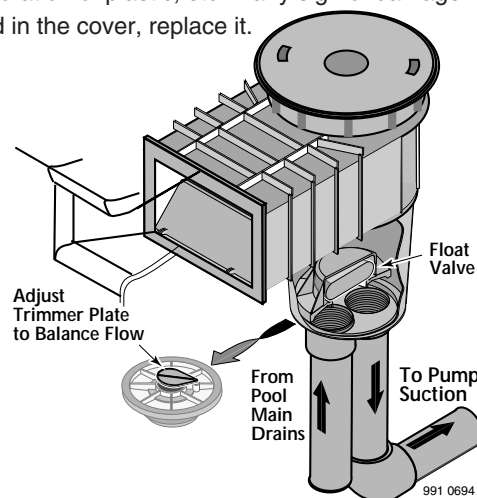

Figure 5: Typical residential installation with float valve. Use with at least two main drains.
Vacuuming pool (Figure 5): Remove cover, basket (and float valve and check valve if skimmer has them). Plug equalizer inlet. Replace basket and place vacuum plate on top of basket. Fill the vacuum hose with water, bring it in over coping or through skimmer throat, and attach the vacuum hose directly to the vacuum plate. Follow instructions in vacuum attachment or filter owner's manual for vacuuming operation. After vacuuming, remove hose and vacuum plate, unplug equalizer port, and reinstall check valve, float, basket, and cover. Be sure cover is solidly in the frame to prevent accidentally dislodging it. Fasten cover with screws provided if children use pool.
3. See Figures 5 and 6, Pages 2 and 3, for piping layout. See Table I, Page 3, for suction pipe sizing.